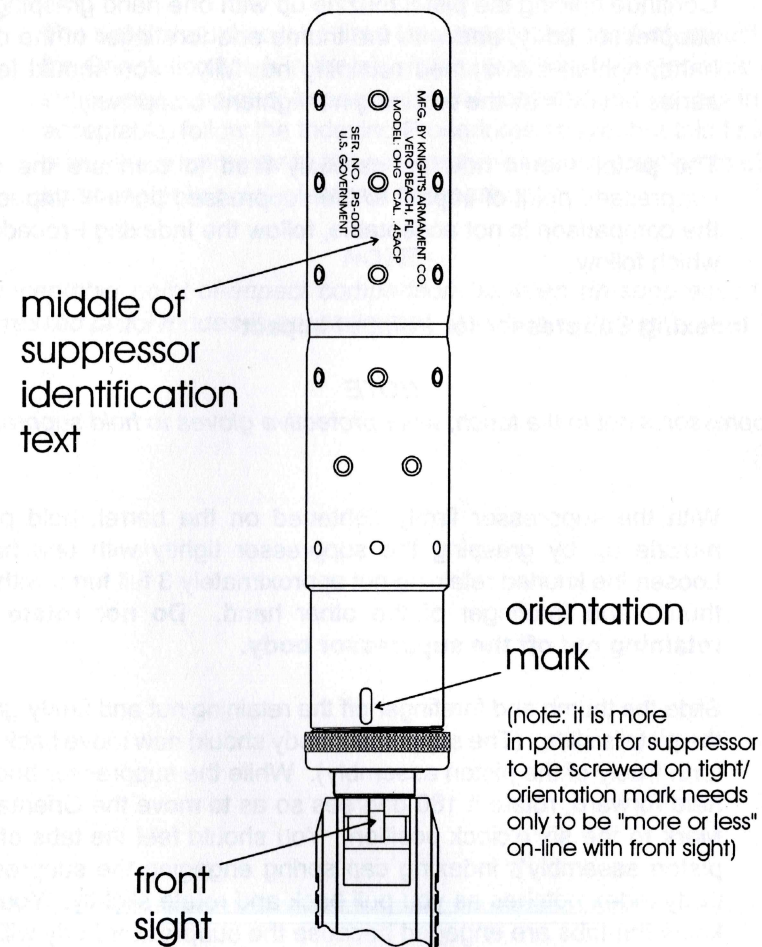

Figure 4 - Indexing Initial Start Point
**2.12 Initial Start Point.** With the suppressor firmly tightened on the barrel, and the tabs of the indexing cap spring engaged in the suppressor body index notches, note the relationship of the Suppressor Orientation Mark and the Middle of the Suppressor Identification Text (as illustrated in Figure 4) with the pistol's front sight. This should "more or less" be your initial start point for checking the suppressor's point-of-impact.